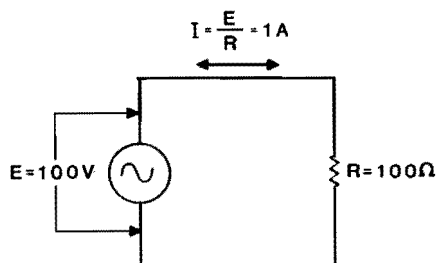

Figure 2-23 Calculating the effective value of AC current.
Let's consider a typical circuit that has an AC voltage source with an effective value of 100 volts and a resistance of 100 ohms, as shown in Figure 2-23. According to Ohm's Law, the effective value of current (I) is equal to: